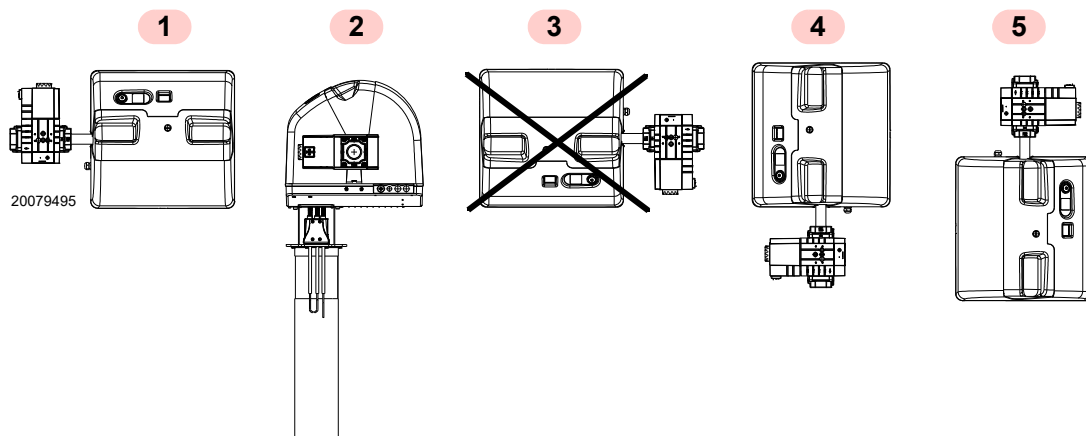

Fig. 12
- The burner is designed to operate only in positions **1, 2, 4** and **5** (Fig. 12).
- All the positions require the installation of the gas valve with coils facing upwards or horizontally (Fig. 12).